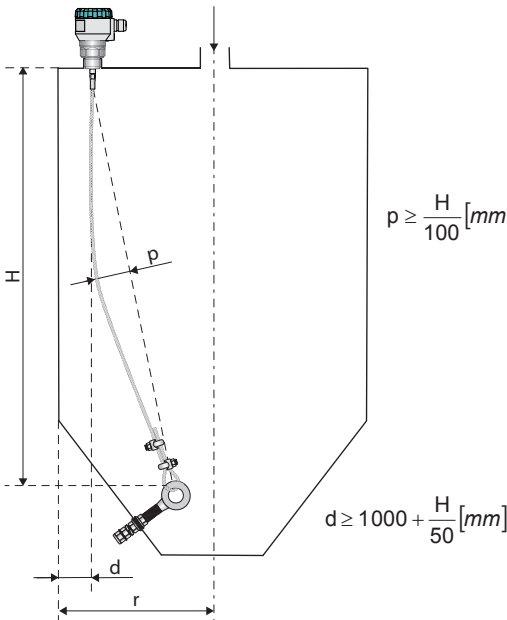

Fig. 19: Recommended installation of the level meter with anchoring on the same side of the silo
- If the ratio of silo width to depth is determined by formula: $r \geq 1000 + H/20$ [mm], the rope can be anchored also on the same side of the silo, see Fig.19.
same side of silo (Fig. 19)	$\geq 1000 + H/20$